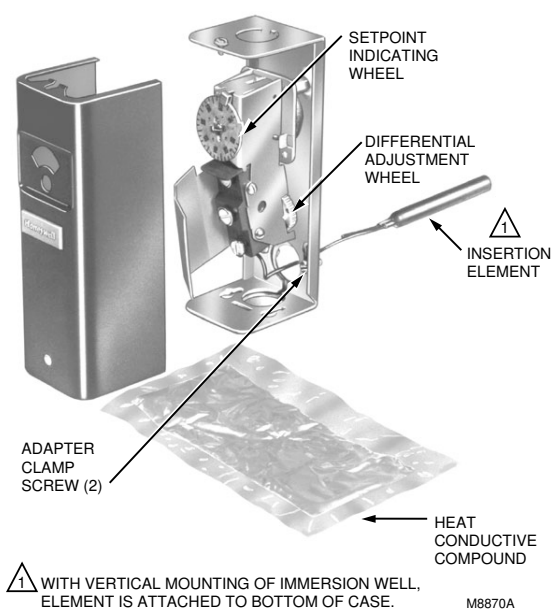

Fig. 1. Internal view of L6006A and accompanying components.
- 6. Loosen the screw (at the top of the case, above the scale setting), and remove the cover. Loosen the two screws that secure the adapter clamp (See Fig. 1).